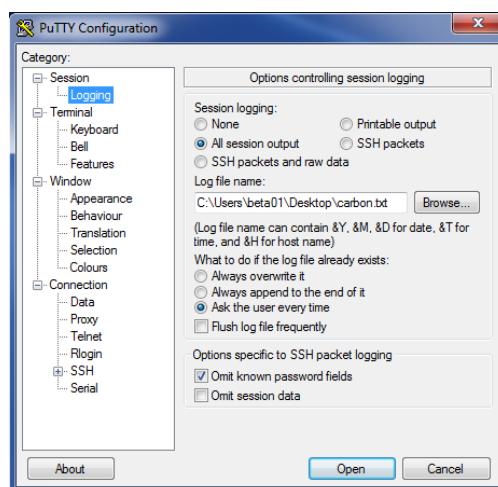

Figure 3. Proper settings to save the transient data to a file named 'carbon.txt'.
5. To save the data, go to the 'Logging' settings (see Figure 3).